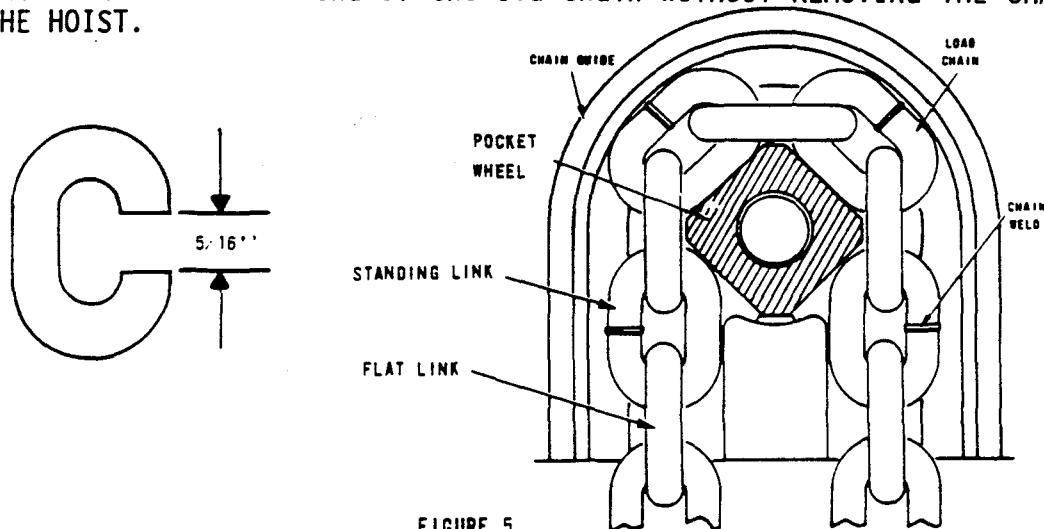
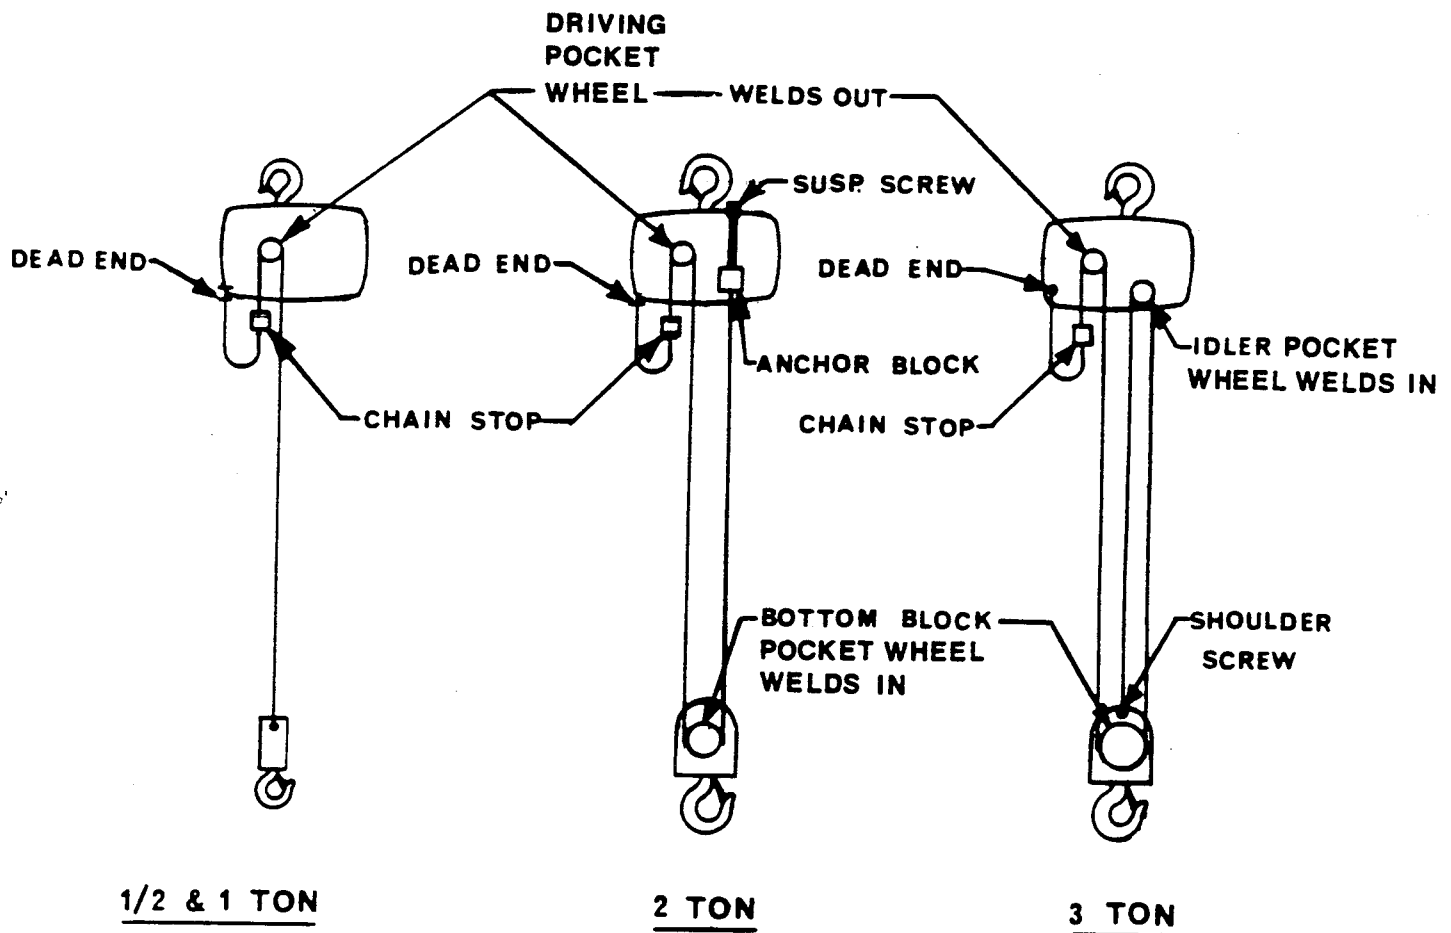

FIGURE 5.
Figure 6
- (e) Connect the new chain to the old using the notched link. Be sure the welds of the standing links (links turned perpendicular to the sheave) face away from the driving pocket wheel. On 1/2, 1 and 2 ton units the first link of the new chain must go on flat. On 3 ton units first link of new chain must go on standing. Use 2 notched links if necessary. (See figure 5 above and figure 6 on page 20.)
For 3 Ton Units: Work chain over bottom block pocket wheel with the chain welds on "Standing Links" toward the pocket wheel. Start with "Standing Link." Be sure chain is not twisted. Work chain over idler pocket wheel from side away from center line of hoist. Chain welds on "Standing Links" must be toward the pocket wheel. Start with "Standing Lin." **BE SURE CHAIN IS NOT TWISTED.** Pull end through the fasten to top of bottom block with shoulder screw. Be sure chain is not twisted. Replace chain stop at least 8 links from dead end of chain. Fasten dead end to bottom crosshead. Be sure chain is not twisted. Refer to figure 5, page 19 and figure 6, page 20.